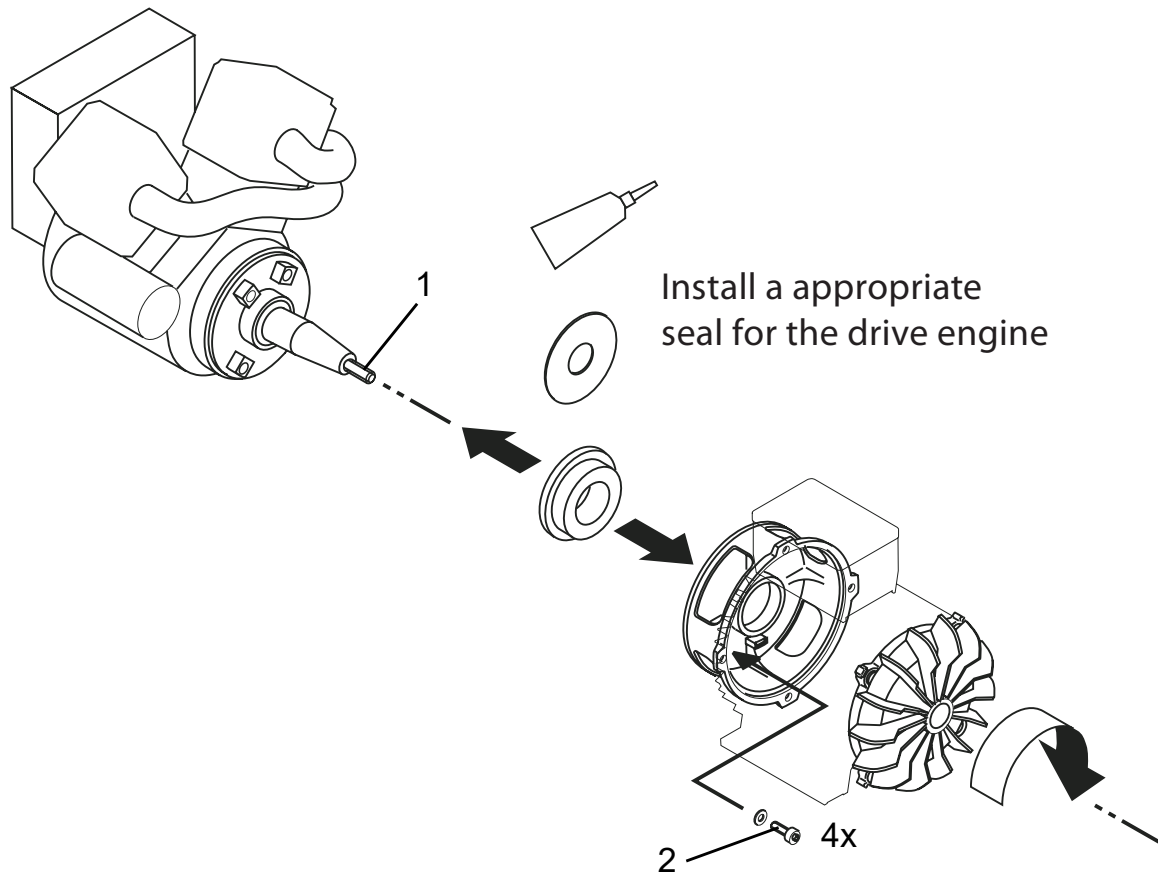

Fig. 8 Assembly of single-bearing brush generators on the drive motor
- ⇒ **Fig. 8, Assembly of single-bearing brush generators on the drive motor, page 43**